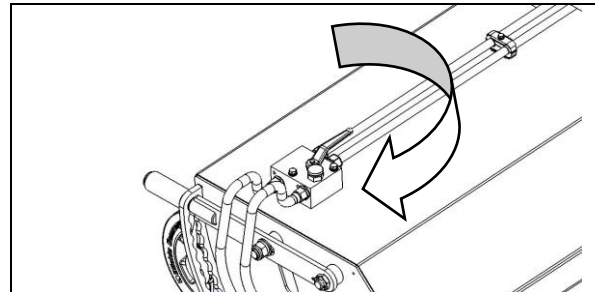
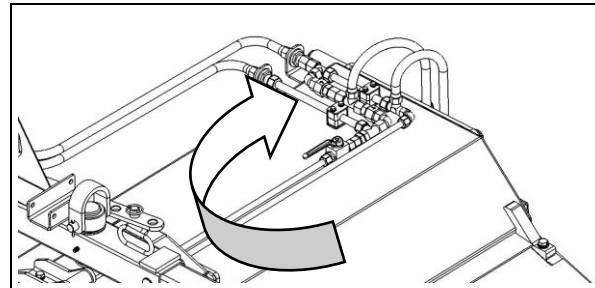

Fig. 4.13
Fig. 4.14
- Open shut-off valve to the hydraulic motor of the side brush (Fig. 4.13) and the hydraulic cylinders of the collection hopper (Fig. 4.14).